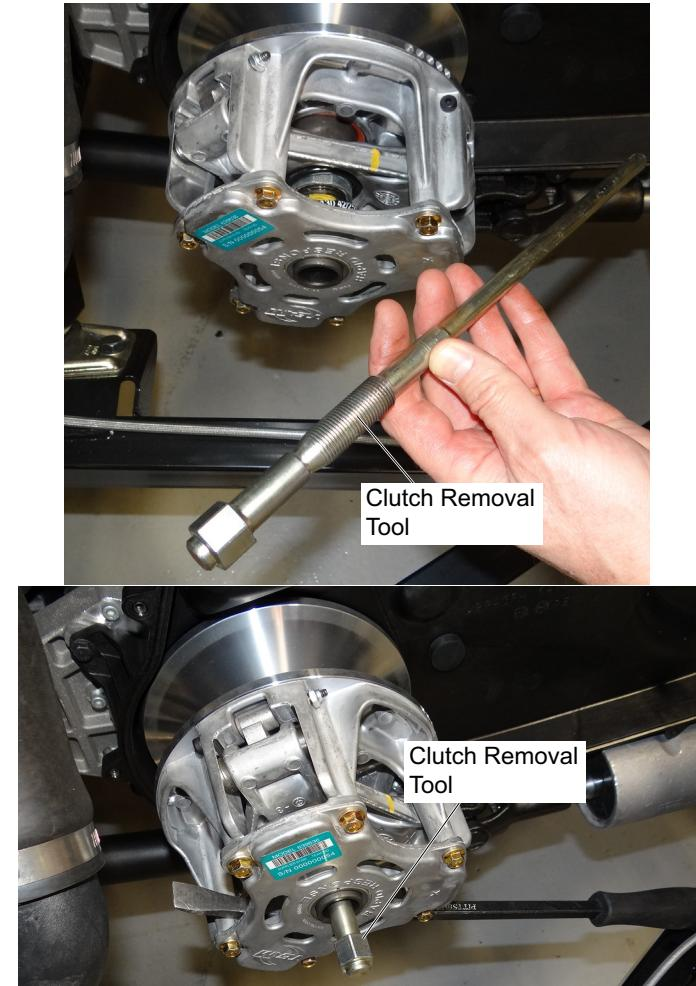

Fig. 4 Clutch Tool
2. Use a pry bar or a strap wrench to prevent the primary clutch from turning. Remove bolt (19), lock washer (20), flat washer (23), clutch fan (22) and fan washer (21) from the engine crankshaft (Ref. Fig. 4).